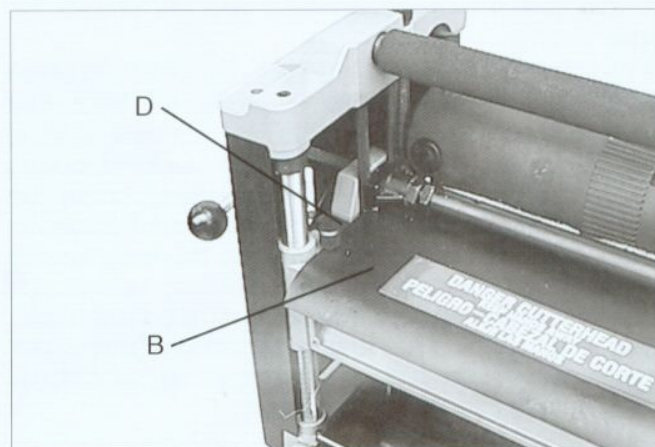
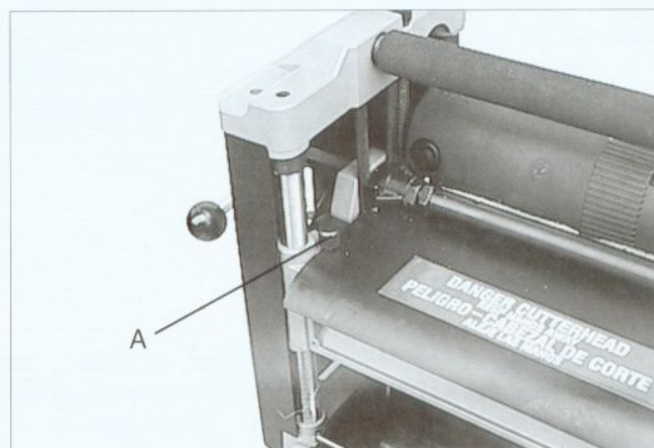

Fig. 27
Fig. 28
11. Replace cutterhead guard (B) Fig. 27, making sure cutterhead lock (D) is depressed and underneath guard (B) as shown. Slide guard (B) in as far as possible and replace two screws, one of which is shown at (A) Fig. 28, These screws were removed is **STEP 3.**